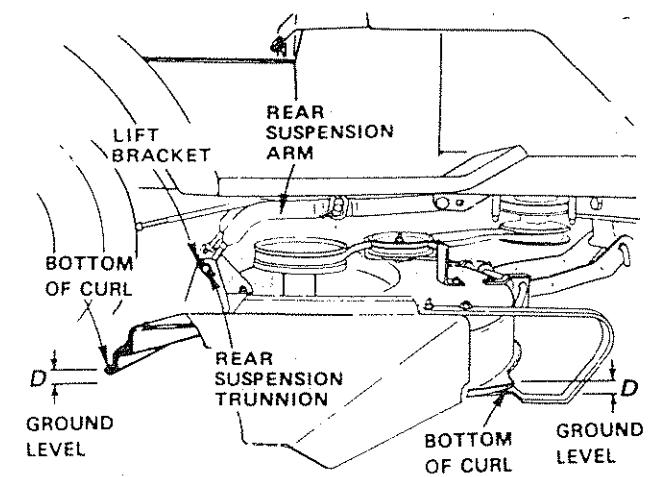

FIGURE 34
- To obtain the best cutting results, your Mower Housing should be adjusted so the Front and Rear Flange distance "D" (Fig. 34) is 1/2" lower in front when the mower is positioned in the highest cutting position. NOTE: MEASURE DISTANCE "D" FROM GROUND LEVEL TO BOTTOM OF CURL ON RIGHT REAR FLANGE AND COMPARE TO DISTANCE "D" ON RIGHT FRONT FLANGE.